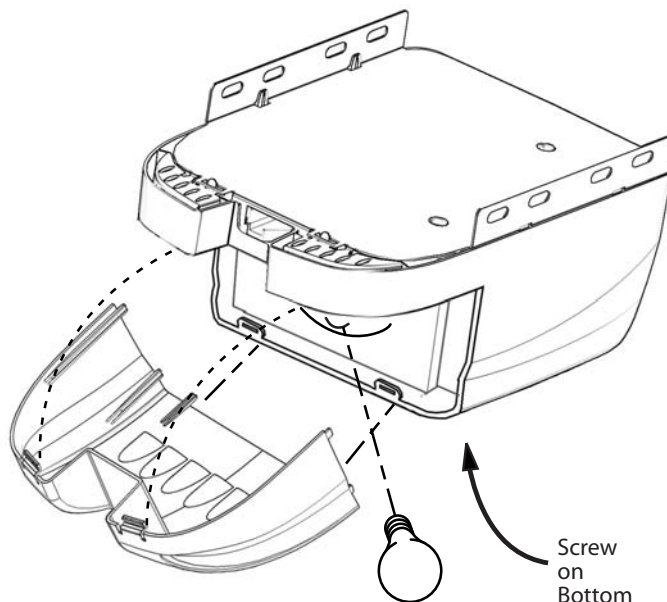

Figure 14 Install Lens and Light bulb
- Install a 100 Watt light bulb (not included) into Light Socket (Figure 14):